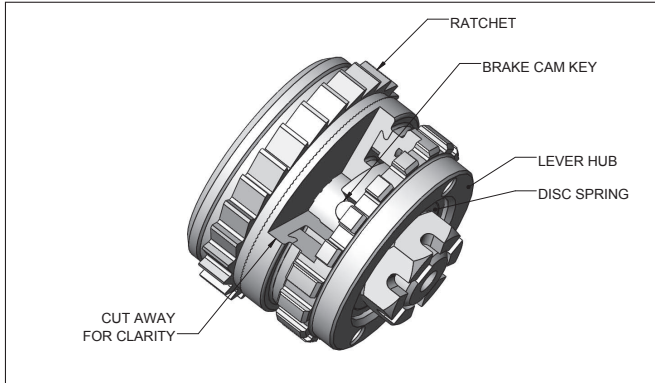

Figure 14. - Brake Parts
- d. Apply a light film of Anderol #786 (Nuodex, Inc.) to the inside diameter of the Lever Ratchet Hub on the second friction washer as shown in Fig. 14.
- f. Assemble Brake Cam onto shaft then insert Brake Cam Key rounded end first - the key must be positioned as shown in Fig. 14.